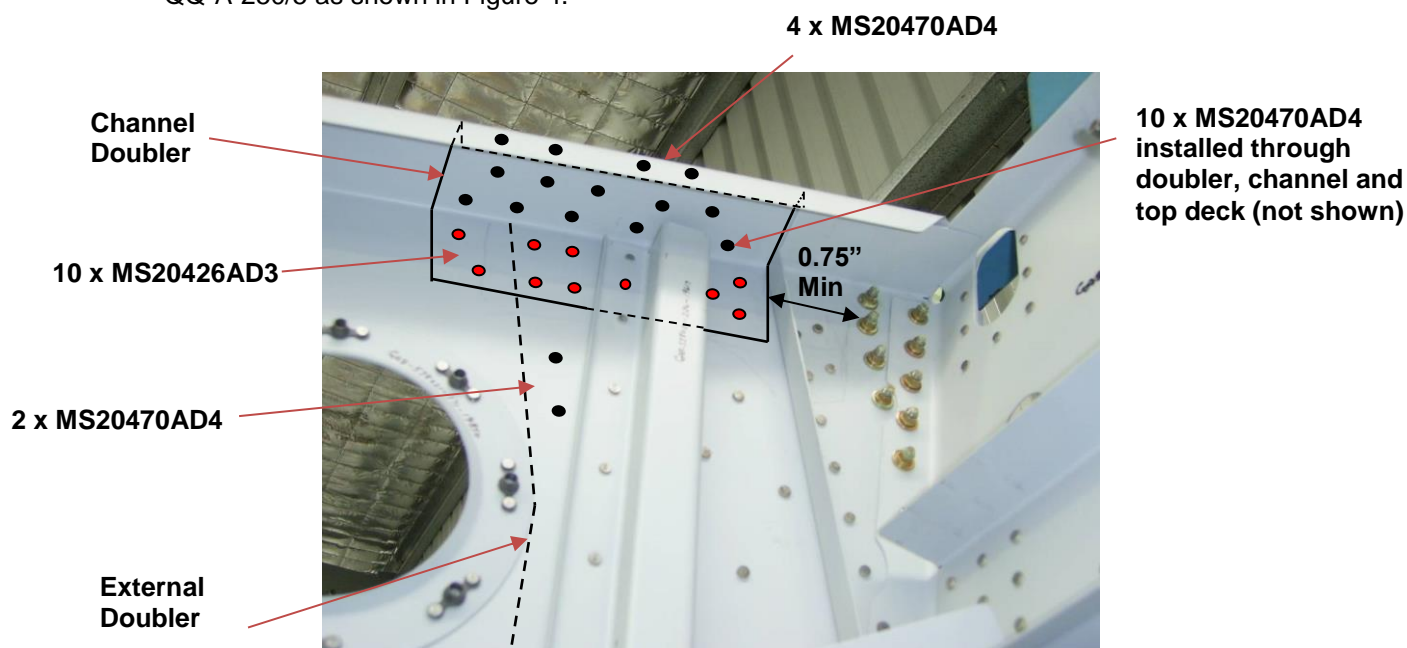

Figure 4
11. Prepare a doubler channel approximately 10 inches long from 0.025" thick 2024-T3 Alclad sheet per QQ-A-250/5 as shown in Figure 4.
14. Place channel doubler between the tailcone skin and the Aft Inspection Hole Stiffener, as shown in Figure 4. Place the external doubler in position. Install external doubler using fasteners with same type as existing (MS20470AD and MS20426AD rivets). Install channel doubler using additional MS20470AD4 and MS20426AD3 rivets as shown in Figure 4. Install Aft Inspection Hole Stiffener in remaining holes using same fasteners as were removed. Ensure 2D edge distance is maintained on all rivets, minimum 4D spacing between rivet, and the aft edge of the channel is at least 0.75" forward of the rear pickup bolts. (To prevent the skin cracking at the bolt head).